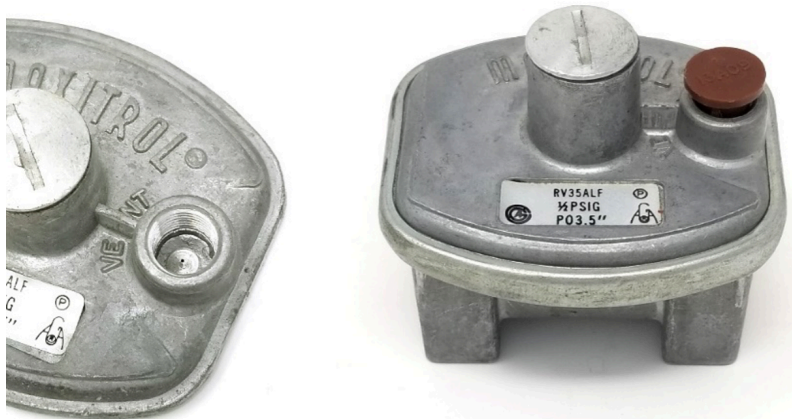

Figure 15. Bleed vent openings
Small appliance regulators and servo regulator on combination gas valves will have a bleed vent opening with an internal orifice, usually about a #78 drill size (Figure 15 left). This opening is large enough to enable the regulator diaphragm to breath adequately but small enough to limit the amount of gas that would escape in the event of a diaphragm rupture. The threaded connection under the cap can be used to pipe the vent to away if the regulator is installed in a non-ventilated space. The vent opening is usually covered by a loose-fitting cap to prevent dirt from entering the opening (Figure 15 right).
- Figure 15. “Bleed vent openings” by Camosun College is licensed under a CC BY-NC-SA licence.